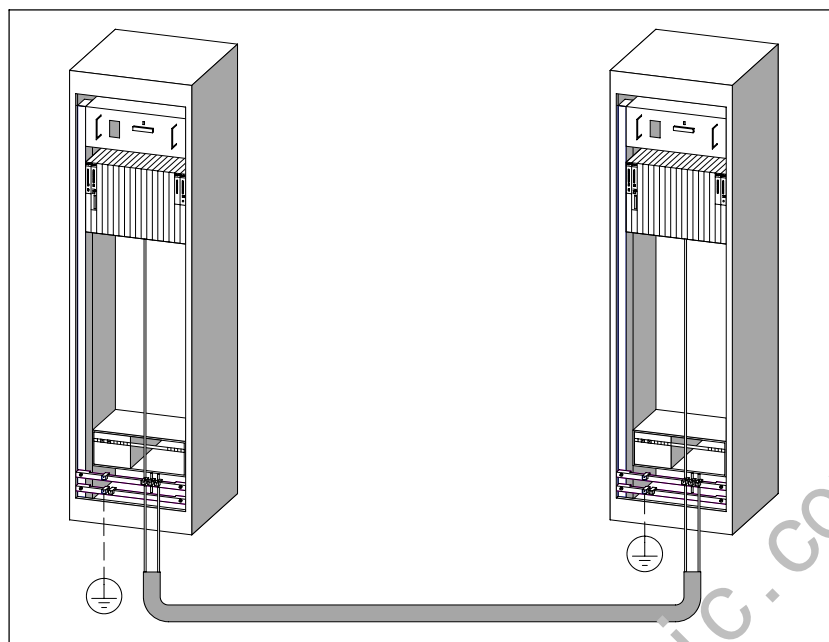

Figure A-5 Routing Equipotential Bonding Conductor and Signal Line
- Lay the equipotential bonding conductor in such a way that the surface between the conductor and the signal lines is as small as possible. (see Figure A-5).